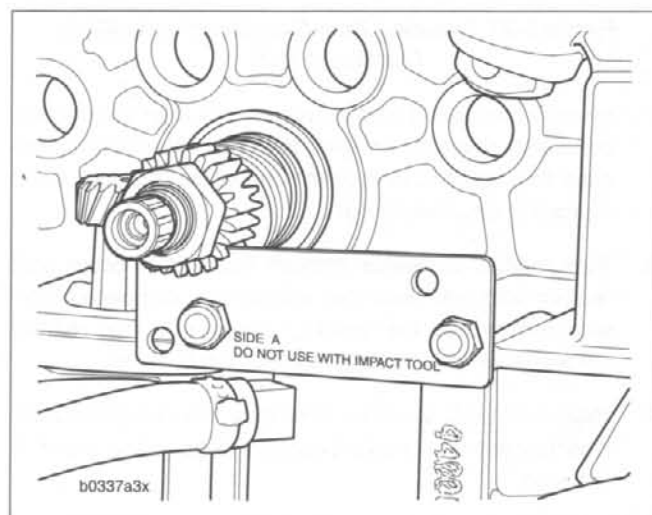

Figure 3-90. Crankshaft Locking Tool (HD-43984)
- b. See Figure 3-90. Install CRANKSHAFT LOCKING TOOL (Part No. HD-43984) to gearcase with "Side A" facing out, over pinion shaft, with two screws.